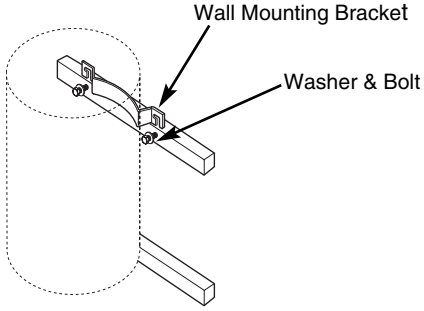

Figure 5B
6. Carefully position the water heater with the mounting bracket behind the bolts and washers, then slide the bracket slot on to the bolts. (Refer to Figure 5B)